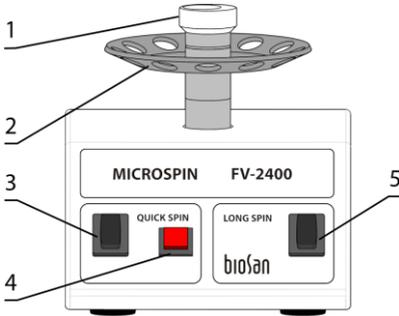

Figure 1. FV-2400
4.4.1 **FV-2400 & FVL-2400N.** To change a rotor (fig. 1/2 or 2/3), hold it with one hand and turn the vortex head (fig. 1/1 or 2/2) counterclockwise to set rotor free. Change the rotor and secure the vortex head.
5.2.2 **Operation in the quick centrifugation mode.** Insert tubes in the rotor sockets, maintaining balance. Switch the **QUICK SPIN** switch (fig. 1/3) into position **I** (on). Press and hold the red key (fig. 1/4) for quick mixing. After releasing the key, the rotor stops automatically. Switch the **QUICK SPIN** switch into position **O** (off) and remove the tubes.
5.2.3 **Operation in the vortexing mode.** Empty the rotor. Switch the **QUICK SPIN** switch into position **I**. While gently holding the tube, press the bottom part of the tube in the vortex head cavity (fig. 1/1). Press and hold the red key for vortexing. After releasing the key, the rotor stops automatically. Switch the **QUICK SPIN** switch into position **O**.
5.2.4 **Operation in the long centrifugation mode.** Insert tubes in the rotor sockets, maintaining balance. Switch the **LONG SPIN** switch (fig. 1/5) into position **I** (on). The rotor starts the movement. Switch the **LONG SPIN** switch into position **O** (off), wait until the rotor stops and remove the tubes.